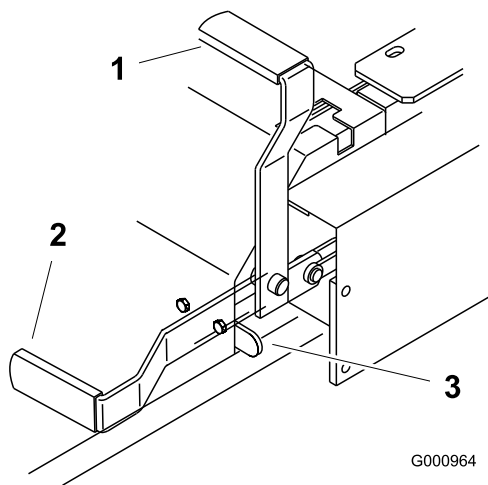

Figure 9
2. Pull up and back on the parking brake lever to set the parking brake (Figure 9). The parking brake lever should stay firmly in the engaged position.
Push forward and down on the parking brake lever to release the parking brake (Figure 9). The parking brake is disengaged and the lever will rest against the brake stop.